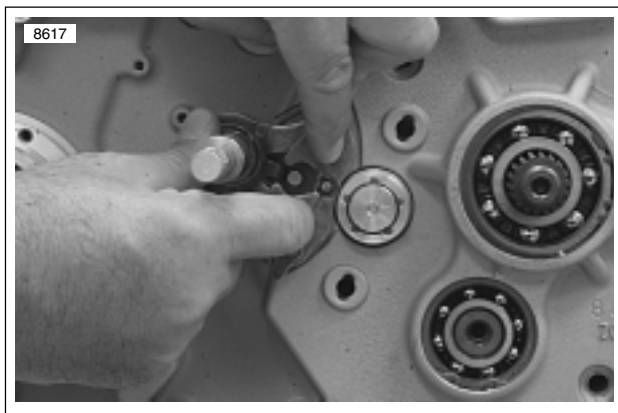

Figure 6-49. Removing Shifter Shaft Assembly
10. See Figure 6-49. Remove shifter shaft assembly.